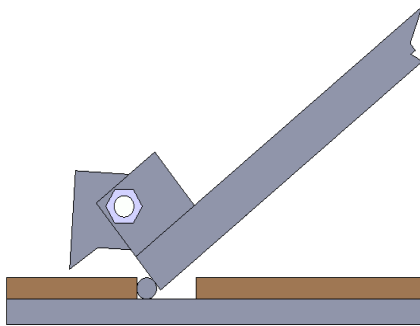
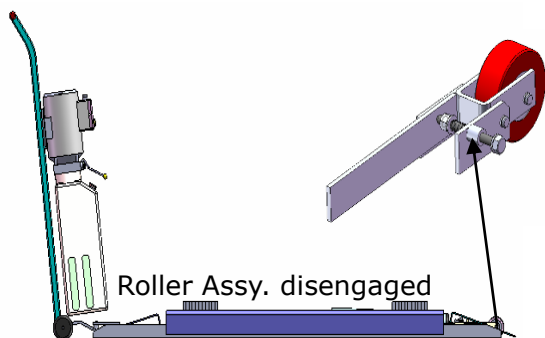

Fig.14
Fig. 16
2. The roller must be disengaging when lifting vehicle (**See Fig.16**). To raise and lock the lift: Press the button up till the lift is raised to the required height and the locks are in engaged (**See Fig.14**), then push release handle of the power unit, the lift would be locked.
4. Move lift: Pull up roller bracket, lock two rollers to the lift with roller shaft. (**See Fig. 16 & 17**). Moving the lift by the power unit stand.